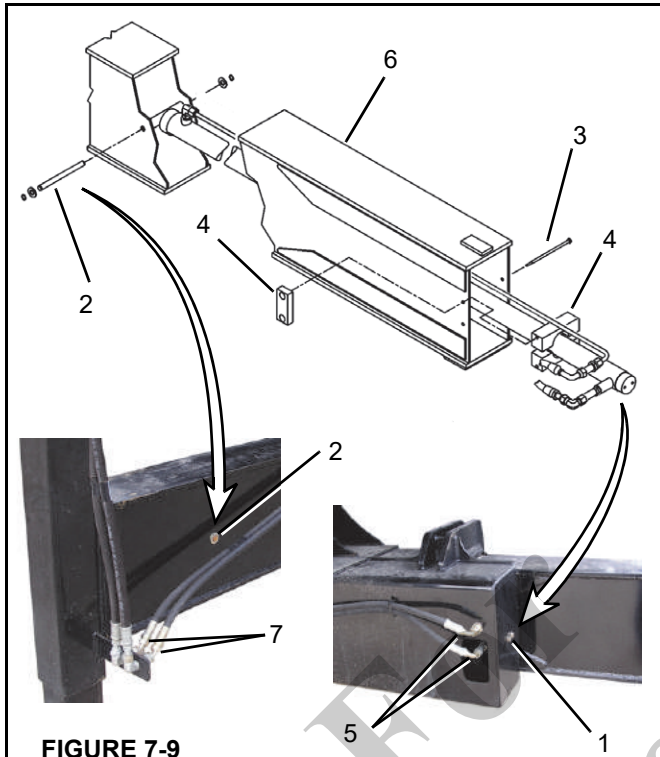

FIGURE 7-9
3. Tag and remove the hydraulic hoses connected to the extension (5, Figure 7-9) and stabilizer (7) cylinders.
4. Remove the bolts (1) that attach the extension cylinder barrel to the outrigger box.
1. Remove the cylinder rod pin (2, Figure 7-9).
2. Remove the bolts (3) from the cylinder wear pads (4).